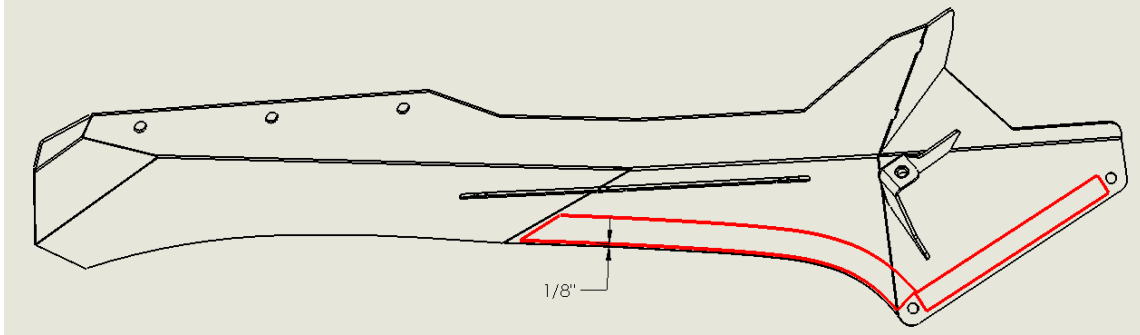

Fig 9
- d. Install the 1" neoprene rubber strip to the inside of both arms as shown in **Fig 9** highlighted in red.